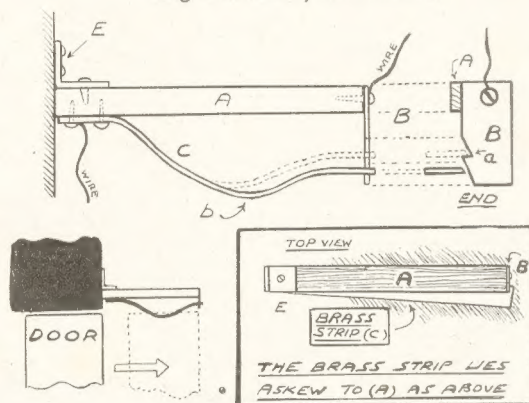

Fig. 3—The catch and fitting for an alarm bell
The special switch (Fig. 3), which is secured to the top of the jamb by a simple bracket (E) is composed of the pieces of wood (A) and the two pieces of strip brass (B) and (C). The first is attached to the end of the wood and is slightly notched as (a). The second piece (C) is long and bent and lies slightly askew to the wood as indicated.